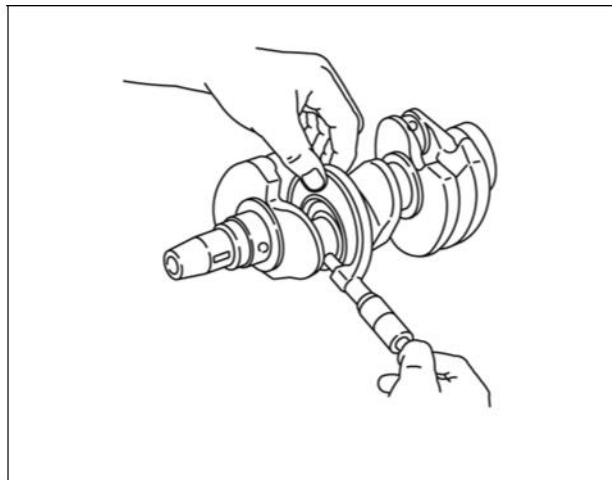

Figure 1
2. Check the main bearing and crankpin journals for wear and taper (Figure 1).